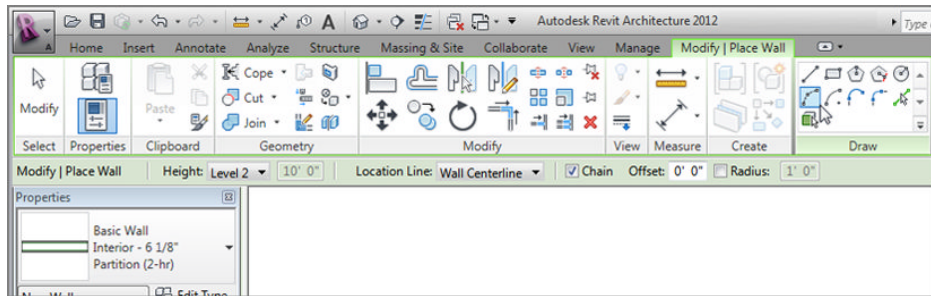

FIGURE 2.32: Choosing options should be old hat by now! The Start-End-Radius Arc button is at the upper right on the Ribbon.
6. On the Draw panel, click the Start-End-Radius Arc button (upper right in Figure 2.32).